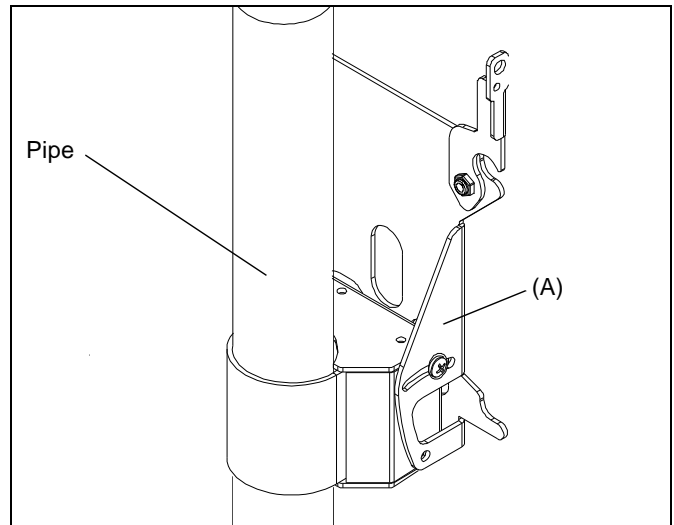

Figure 5
1. Install the FSP (A) on 1-1/2" to 2" O.D. pipe (not included). (See Figure 5)